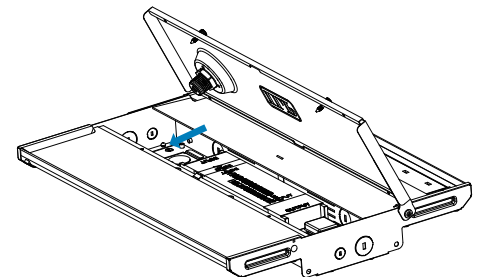

Figure 16
- Slide out both diffusers and set them aside. Recycle the diffusers properly as they will not be needed again** (Figure 16).